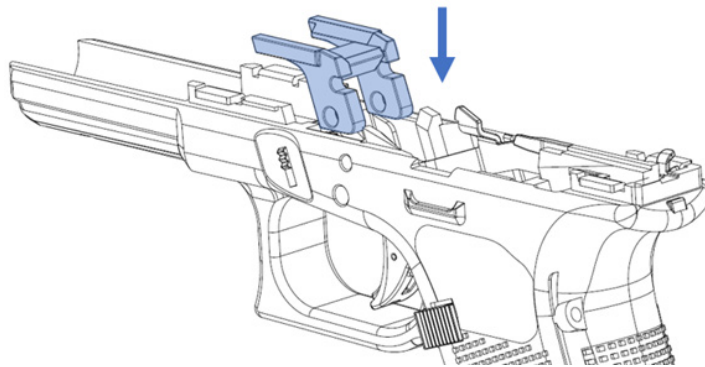

Figure 48: Locking Block installation direction.
c) Insert the Locking Block and ensure it is fully inserted into the frame (Figure 48).